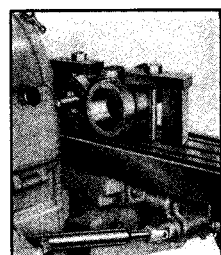
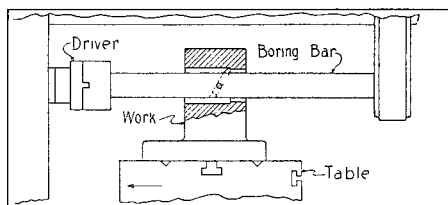

Fig. 13—BORING
Fig. 14
6. BORING:—For boring, a special arbor with an inserted cutting bit is used. (See fig. 14.) If the work can be bored close to the head of the miller, the use of a short shank arbor is permissible (see fig. 13); otherwise the arbor should be of such a length so that the arbor support bracket can be used to support the other end.